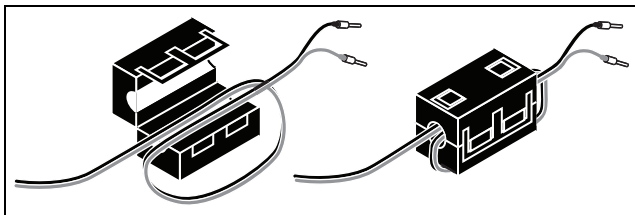

Figure 12. Installing a Ferrite
- Clamp-on ferrites must be connected to the motor cable and Vsup cable as close to the module as possible with a full turn as shown in Figure 12. Placing the ferrite elsewhere on the cable noticeably impairs its effectiveness.